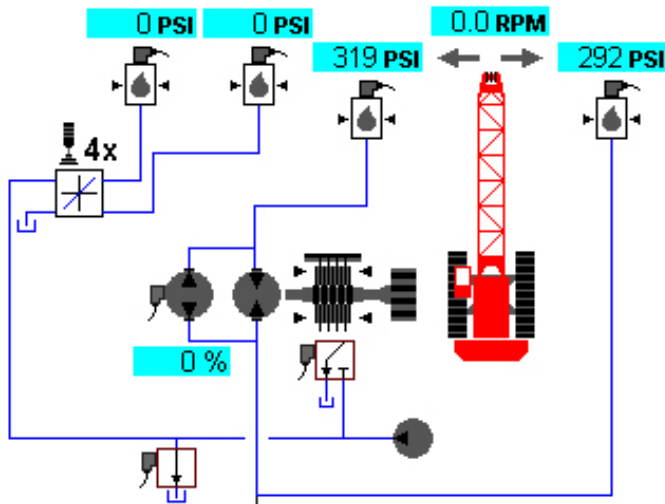

Figure 2-29. Swing Diagnostic Screen
1. At the main display, navigate to the Swing Diagnostic screen (Figure 2-29 on page 2-32).